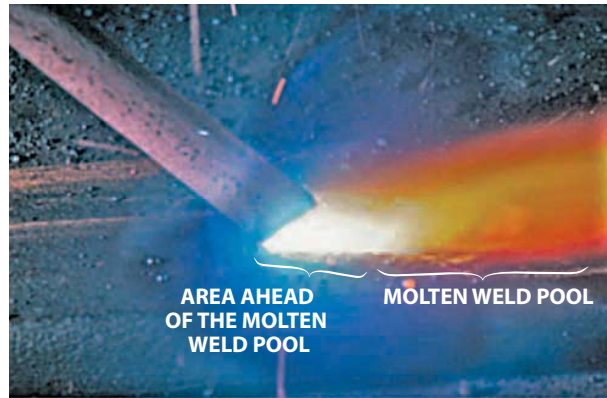

FIGURE 9-13 Metal being melted ahead of the molten weld pool helps to ensure good weld fusion. Larry Jeffus
- Ensure that the arc melts the base metal completely, Figure 9-13.